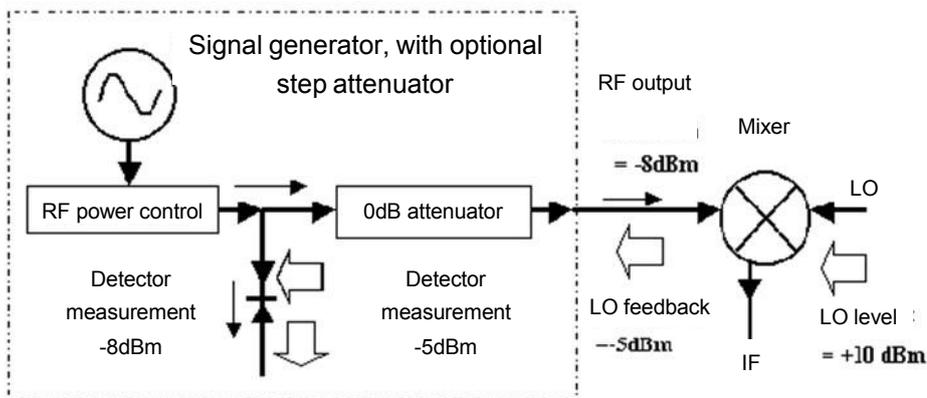

Figure 3.13 Reverse power effect, -8dBm coupling output
Attenuators are manually used for mixer testing. In the example shown in Figure 3.13, the output power of the signal generator is -8dBm. In the internal level control mode, the attenuator attenuation is set to 0dB. Set the ALC power level to -8 dBm. The local oscillator (LO) drive of the mixer is +10dBm. The isolation between the local oscillator (LO) and the RF output of the signal generator is 15dB. The power fed by LO to the output end of the signal generator is -5dBm, which passes through the attenuator without loss to the internal detector.